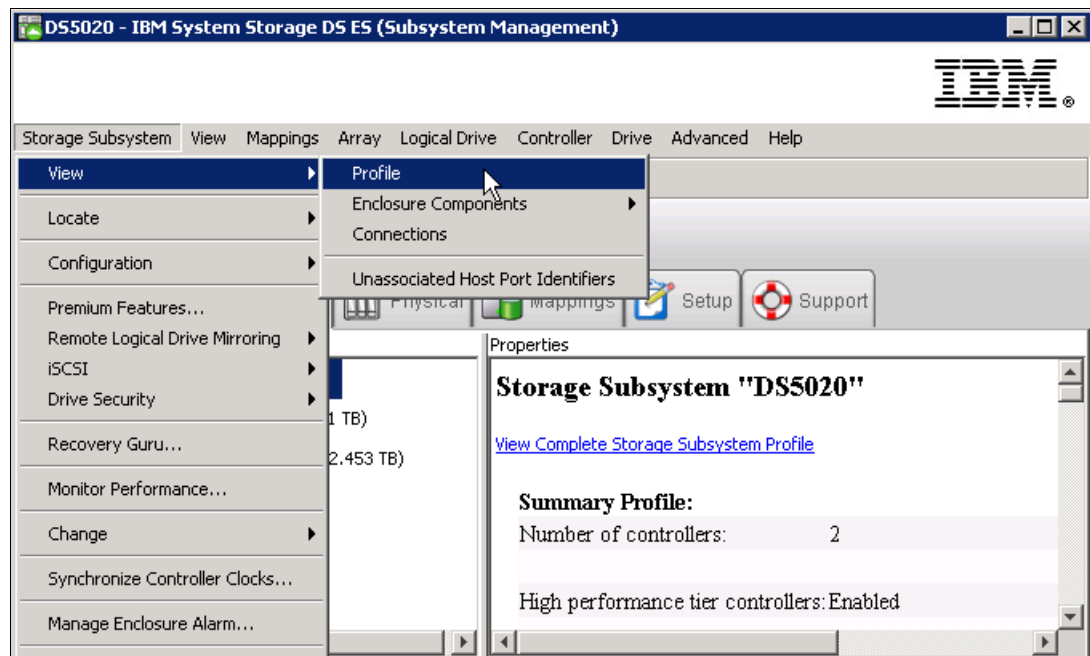

Figure 3-95 Viewing the storage subsystem profile
1. To obtain the profile, open the Subsystem Management window and select **Storage Subsystem** → **View** → **Profile**, as shown in Figure 3-95.